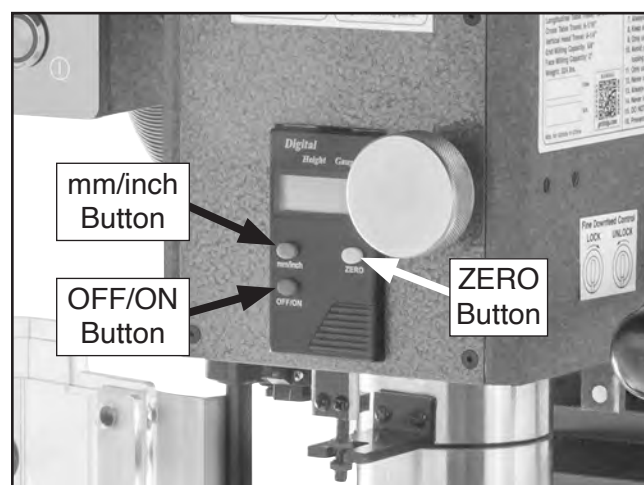

Figure 31. Spindle depth DRO.
1. Press OFF/ON button (see **Figure 31**). A reading should appear on display.
2. Press mm/inch button (see **Figure 31**) to toggle display between inches and millimeters.
3. Press ZERO button (see **Figure 31**) to "zero" readout at any point along spindle travel. Current reading will be cleared and scale will reset to 0.00.